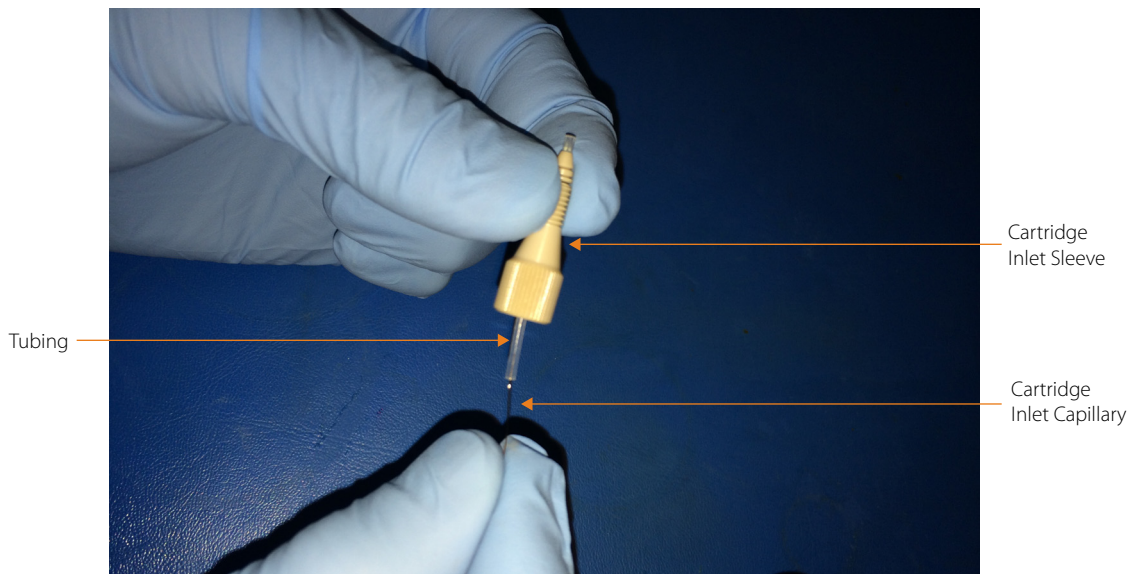

Figure 6-10: Holding the cartridge inlet sleeve and cartridge inlet capillary.
22. Hold the cartridge inlet sleeve with two fingers of one hand, and hold the cartridge inlet capillary with two fingers of your other hand (Figure 6-10).
23. Insert the cartridge inlet capillary into the opening at the bottom of the tubing (Figure 6-10).